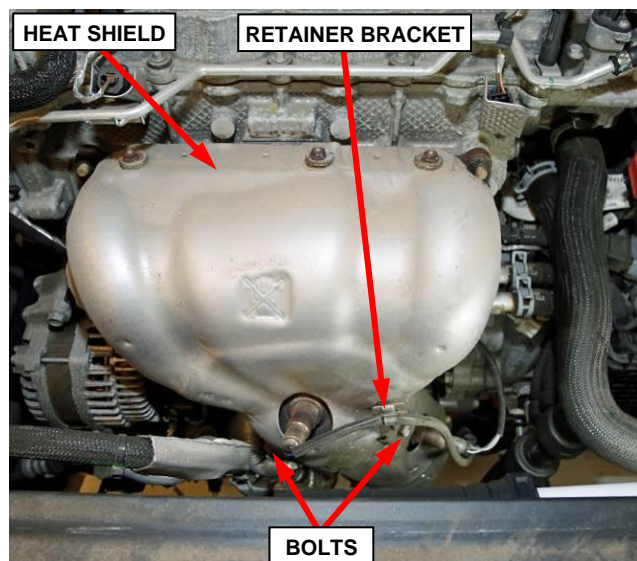

Figure 9 – Maniverter Heat Shield
16. Remove and **DISCARD** the two upper heat shield bolts and if applicable, **SAVE** the oxygen sensor wire harness retainer bracket (Figure 9).